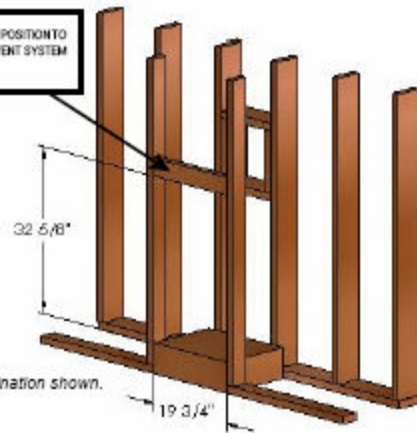

FIGURE 7B
5. Rough in the wall enclosure. Figure 7B.